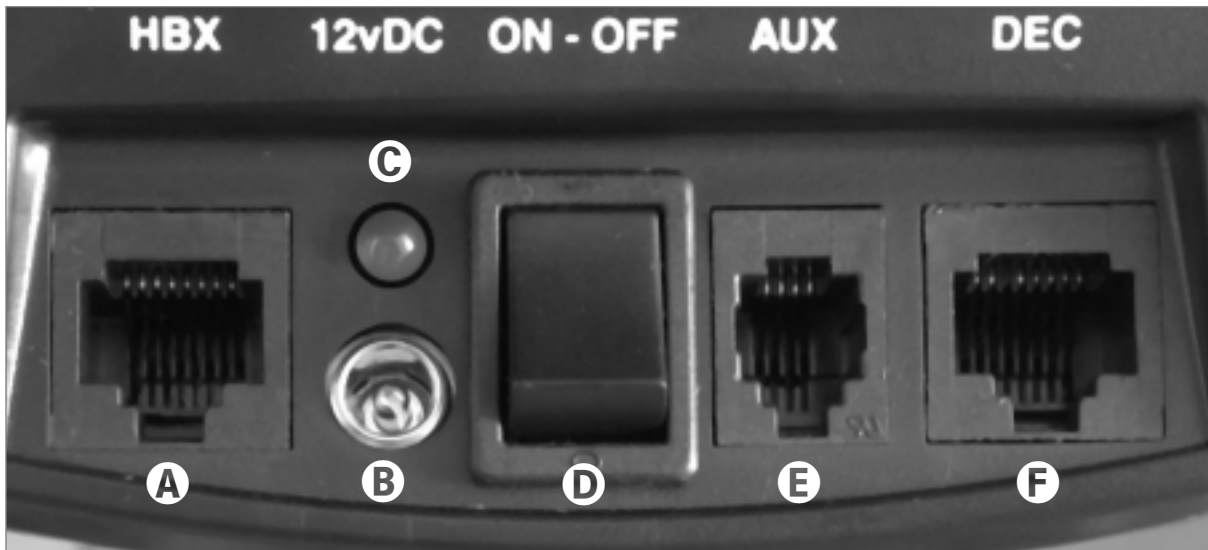
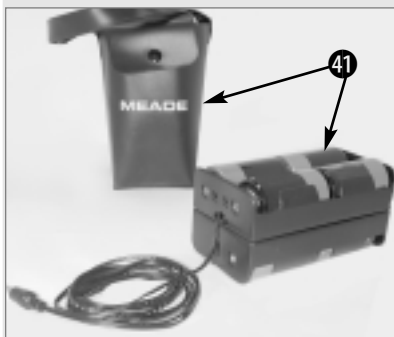

Fig. 1e: The LX55-Series Computer Control Panel (see 24 above).
Fig. 1f: The LX D55-Series Battery Pack and holder.
- 15 **Viewfinder Bracket Screws (2)**: Tighten to a firm feel to hold viewfinder securely in place (see 4). See page 12 for more information.
- 24 **Computer Control Panel (see Fig. 1e)**:
- 41 **Battery Pack and holder (see Fig. 1f):** Plug into the 12v DC power connector (B, Fig. 1e) of the computer control panel. Insert 8 (user-supplied) D-cell batteries to power motor drives and Autostar handbox.